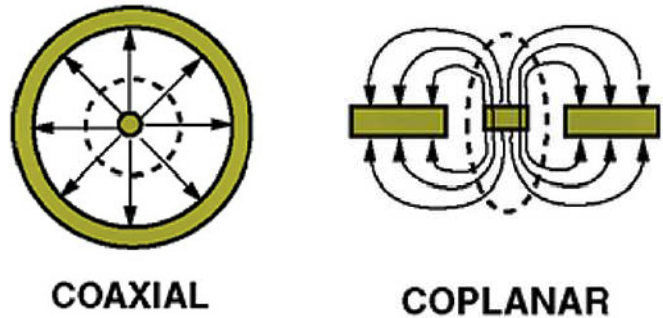

Figure 1
1. Fixture 140-0000-973 should be used as an aid during manual soldering. The fixture protects the connector from damage during clamping and also maintains the proper location of the connector's insulator and contact. To use the fixture, thread the coupling nut on the mating end of the connector and hand tighten. This mounting assembly can now be held in a vice or similar clamping device, as shown in Figure 1.
As can be seen in the cut away portion of Figure 1, the connector's center conductor pin is directly attached in-line with the GCPW signal trace. The body of the connector is always attached to the signal side ground. The design of the center conductor pin is a compromise between ease of assembly and minimal discontinuity reactance. The diameter of the pin is matched approximately to the thickness of the GCPW structure. Scaling down the pin diameter matches the electromagnetic field distributions with the GCPW line in order to keep the discontinuity reactance small.